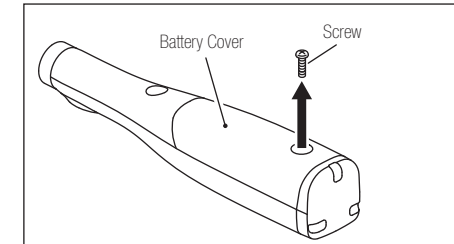

Fig. 14
- 3) Remove the screw fixing the Battery Cover with a Phillips screwdriver. (Fig. 14)